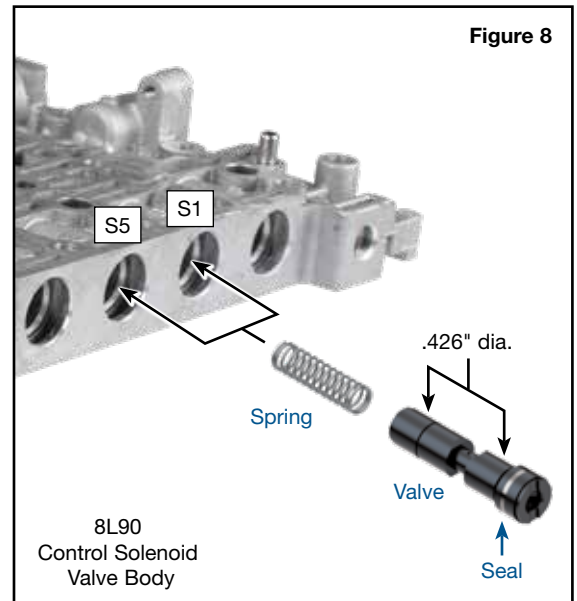

Figure 8
Step 11 Install S1/S5 Clutch Control Valve (Figure 8)